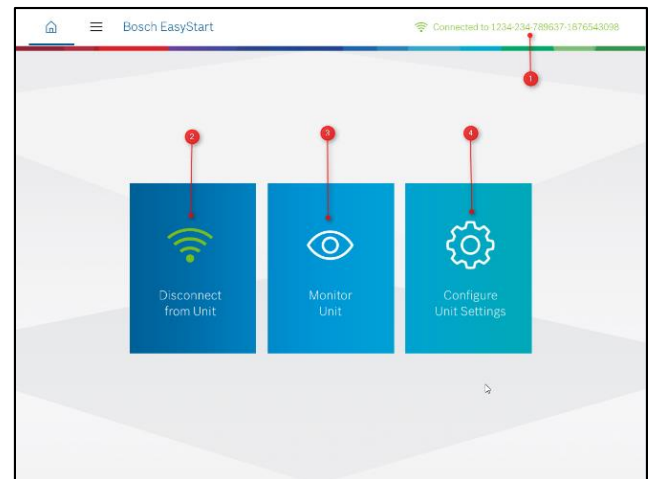

Figure 18: Home Screen when connected
6. Once it connected successfully it will redirect to home screen and “Not connected” status will be changed to “Connected” and connected device serial number will be displayed in the right side header of the app. See the figure 18.
6. Once the HPC is connected successfully to the Bosch EasyStart app, “Not connected” status will be changed to “Connected” and connected device serial number will be displayed in the right side header of the app. See the Figure 18.
7. Once connected to the HPC, "Not connected" status will be changed to "Connected" and connected device serial number will be displayed in the right side header of the app. See the figure 18.